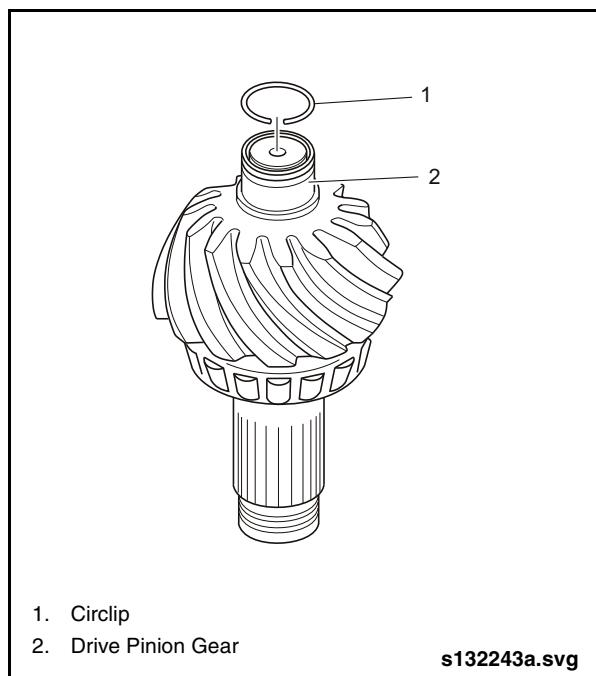

Fig. 2-88: Removing Bearing Circlip
1. Remove the circlip from the roller bearing inner race using internal circlip pliers. See "Fig. 2-88: Removing Bearing Circlip" on page 73.